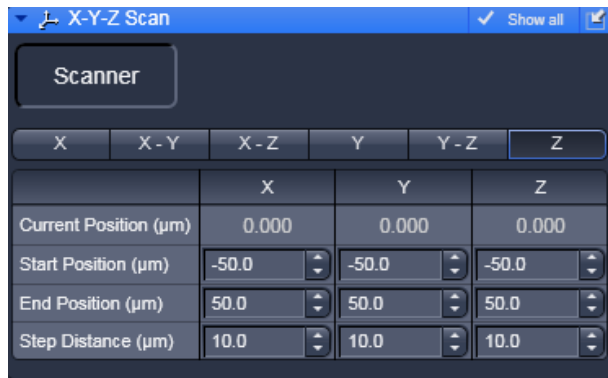

Fig. 74 X-Y-Z Scan tool
- Click on the X-Y-Z Scan tab to open the X-Y-Z Scan tool (Fig. 74). Click the tab again to close the tool.